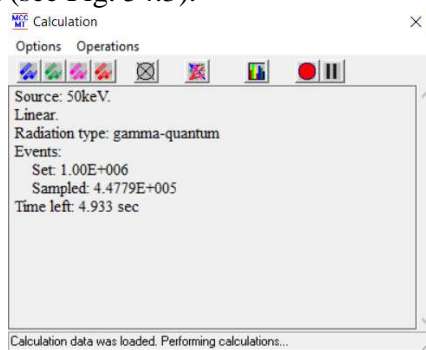

Figure 54.3
8.1.3 In the menu of the window **Calculation**, press the button  or select the menu item **Operations->Start/End Measurements**. In the working field of the window **Calculation** will show the process of calculation (see Fig. 54.3).
8.2.3 In the menu of the window **Calculation**, press the button  or select the menu item **Operations->Start/End Measurements**. In the working field of the window **Calculation** will show the process of calculation (see Fig. 54.3).